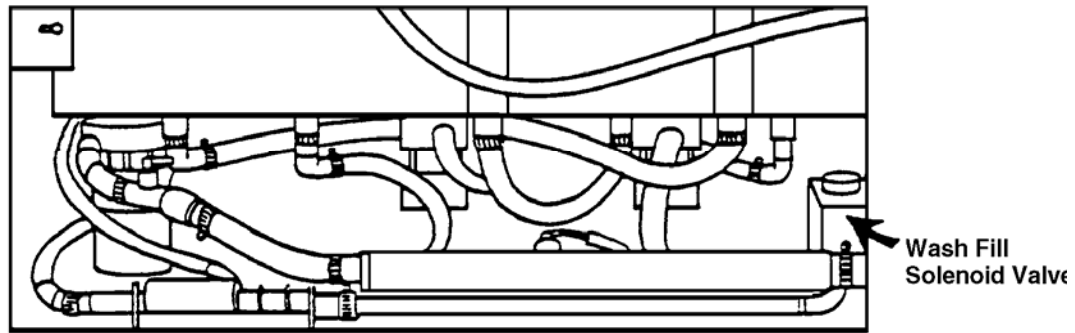

Figure 1-14. Wash fill solenoid valve location.
(9) Check the circulation system. Separate pumps circulate the developer and the fix in the solution tanks. The pumps operate constantly when the power switch is ON. A solenoid valve turns the water ON and OFF. See figure 1-14. The level detector circuit automatically fills the developer tank and keeps it filled using detector probes at the top of the developer tank. A replenisher pump activates and adds replenisher to top off the tank. Expanded fix and developer solutions overflow into the drain ports on the right side of the tanks and into the drain manifold. If the fix drain port becomes plugged, the solution flows into a safety drain port. The wash tank has an overflow weir at the rear of the tank for skimming action. When you turn off the machine, the drain solenoid opens and the wash tank drains directly into the drain manifold. Poor solution circulation can contribute to a variety of problems associated with temperature control and film artifacts. Lack of proper circulation can be caused by the following conditions: stagnating chemistry, resulting in deposits in tanks and lines; lack of regular draining and flushing of tanks and lines; application of power when tanks are empty causing pumps to overheat; kinks or restrictions in the lines.